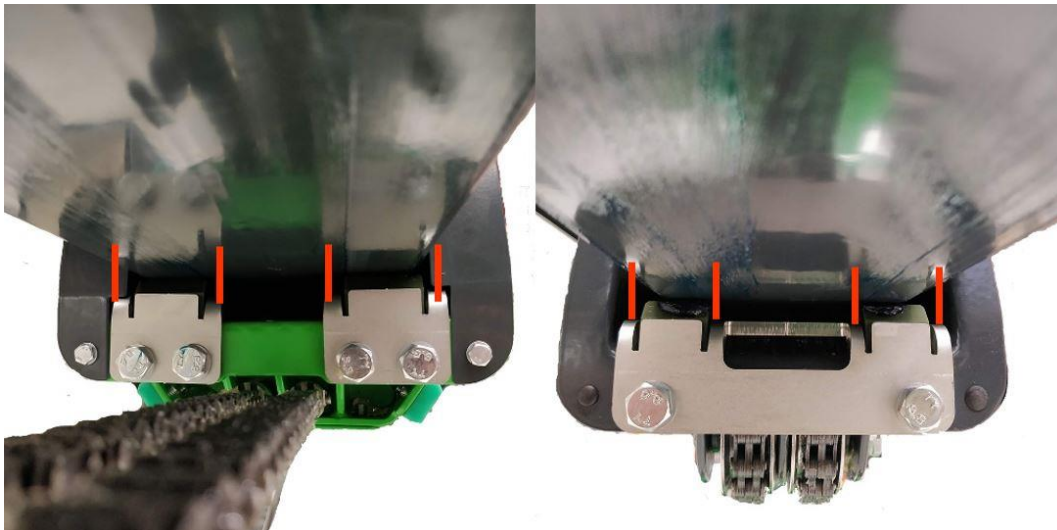

Figure 20 Width of the greased surface on Middle Boom and Extension highlighted with red lines
The position sensor pins on the outriggers should be cleaned and greased with water resistant (e.g. Mobil XHP 222) during the yearly maintenance of the access platform. The pin is removed from the outrigger by opening the locking screw on the end of the outrigger (figure 20, A). The pin is moved by a spring which is to be removed before the greasing. Apply only a thin layer (< 1 mm) of grease on the surface of the pin by using a brush for example. After greasing install the spring back on the pin and place the pin back on the outrigger and lock carefully it with its screw.
Hydraulic oil level can be checked with the dipstick in the filler cap (Figure 20 (1)). Oil level should be at the upper mark in the dipstick when the lift is in transport position (booms down on transport supports and outriggers completely up).